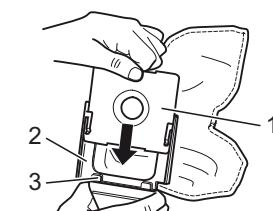

Fig. 21
7. Push the new dust filter bag (Fig. 21/1) into the dust bag holder (Fig. 21/2) as shown, so that it rests against the bottom mounting brackets (Fig. 21/3) of the dust bag holder.